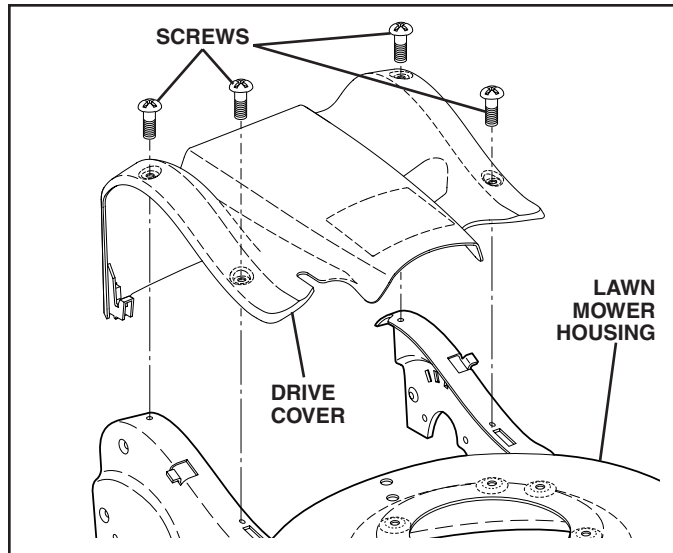

FIG. 18
## TO REMOVE DRIVE BELT (See Figs. 18–20)
2. Remove screws retaining drive cover and remove drive cover from lawn mower housing (See Fig. 18).
9. Install new drive belt into idler arm assembly, then around the drive pulley. Be sure belt is inside of belt keepers (See Fig. 18).